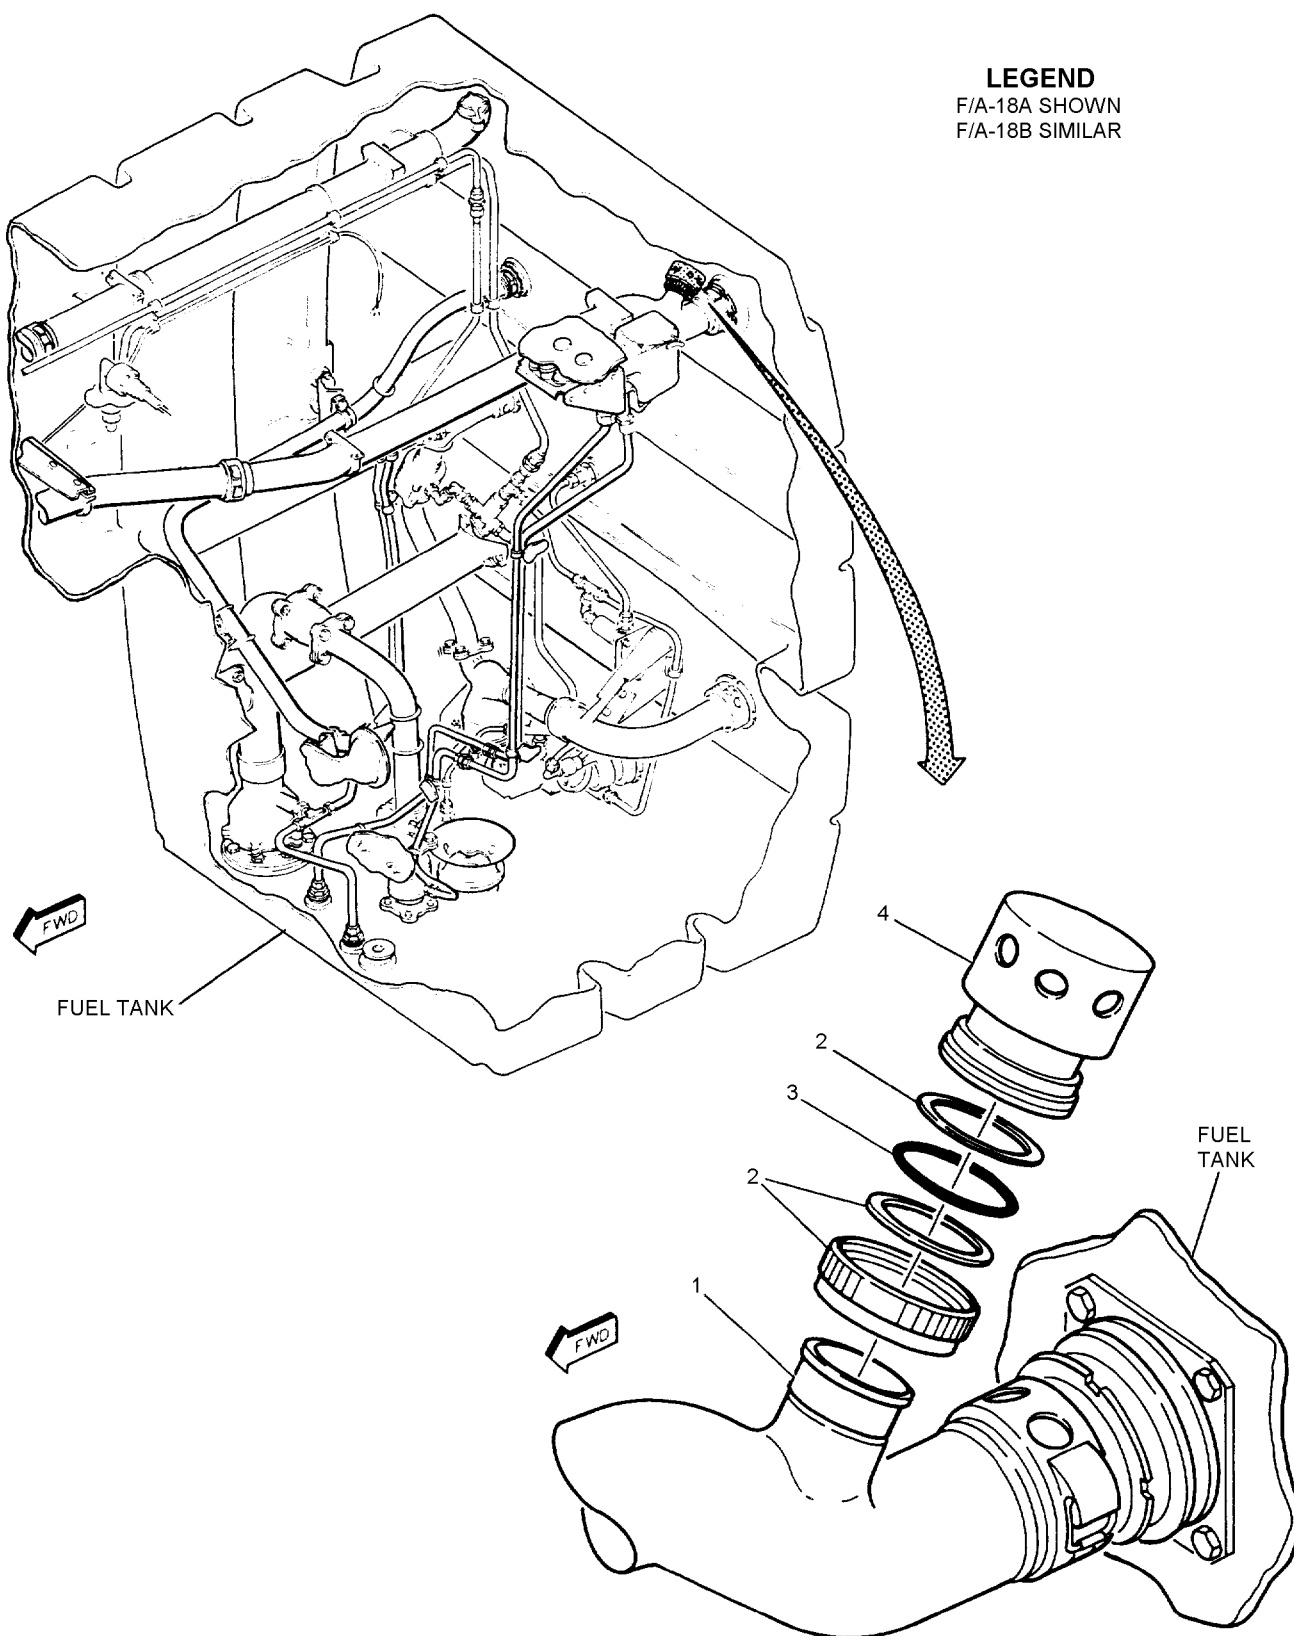

Figure 1. No. 1 Fuel Tank Dive Vent Check Valve (5VAP530) (Sheet 1)
c. Install packing (3, figure 1), nut assembly (2), and check valve (4). Tighten nut assembly (2) hand-tight.